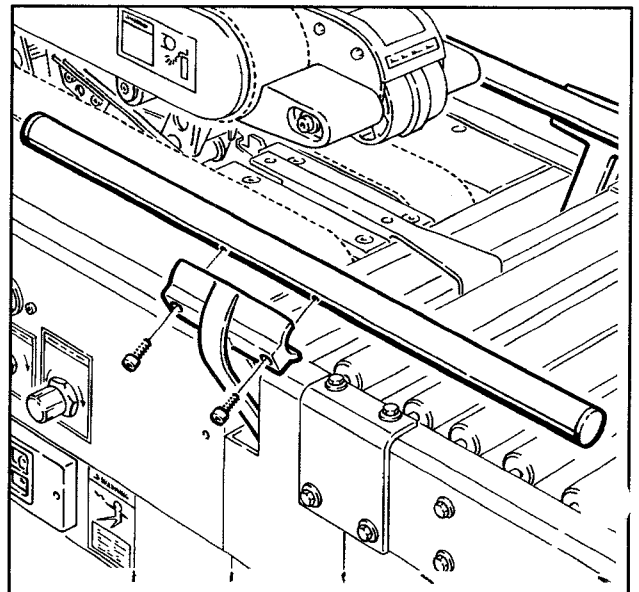

Figure 2-6 - Centering Guides
2. Using a 5 mm hex key wrench, attach the centering guides to the rails with four M6 x 20 screws (two in each guide) as shown in Figure 2-6.